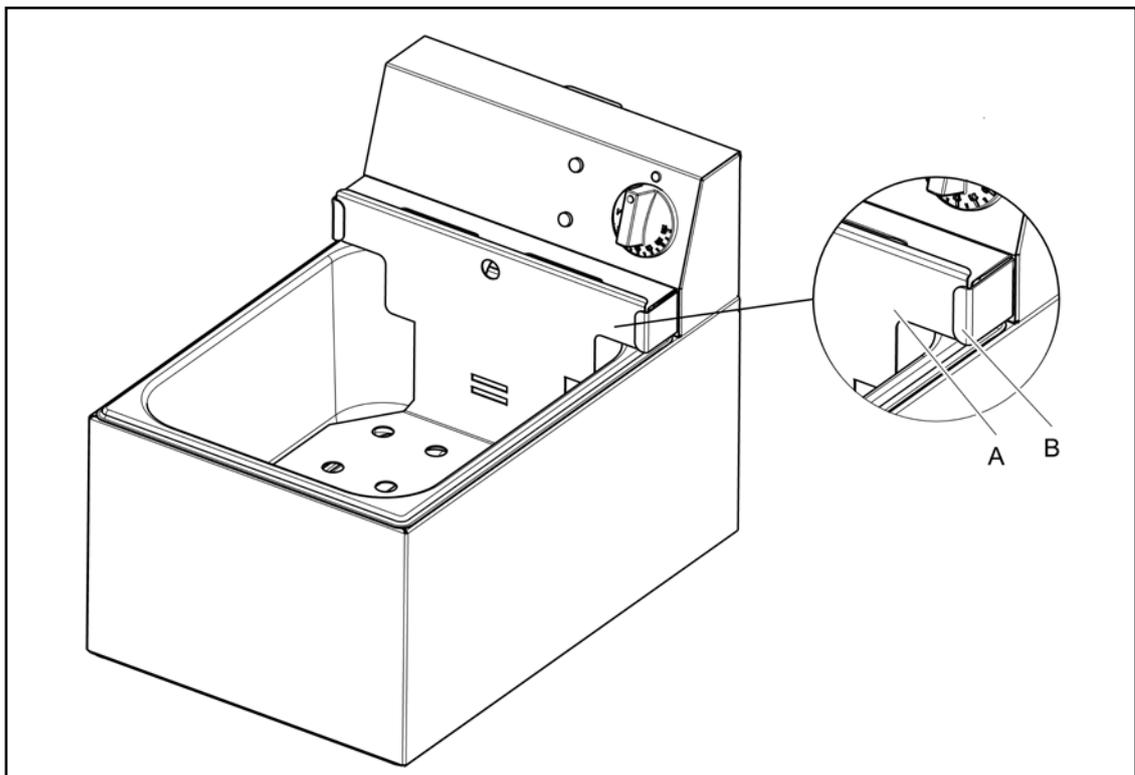

Fig 3
Replace the control head and batter plate, ensuring the batter plate Fig 3 (A) slots **behind** the basket support (B).